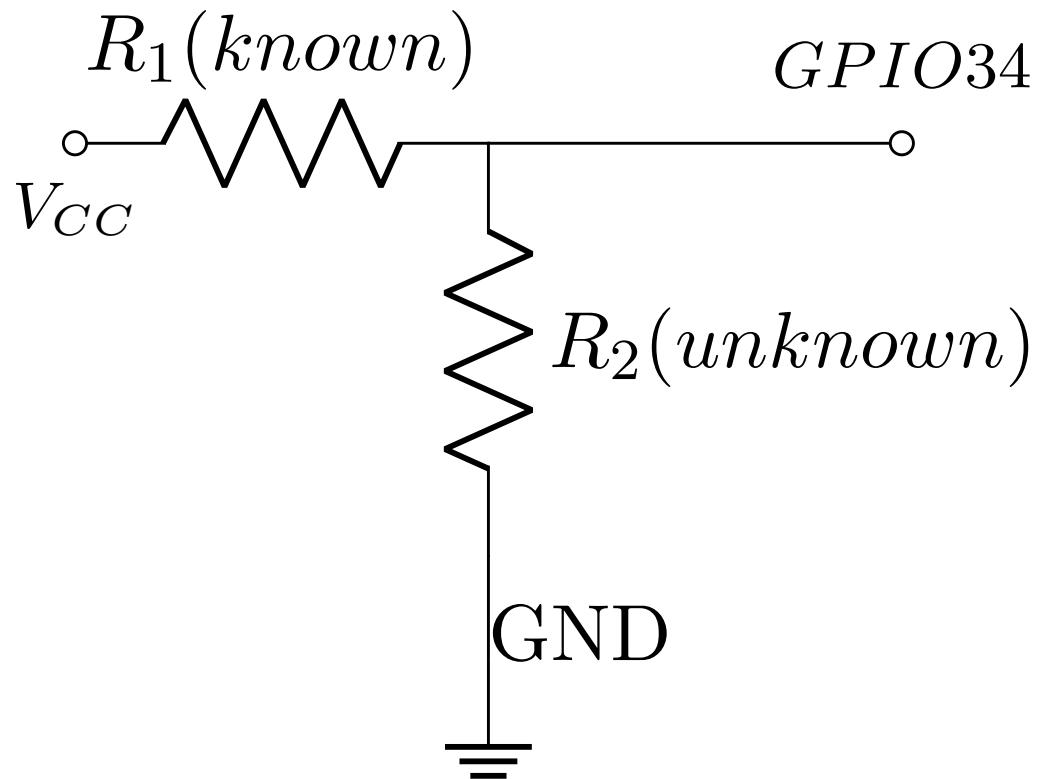

Figure 1.2.3.1: Voltage Divider
in series such that R_1 is connected to V_{cc} and R_2 is connected to GND. Refer to Fig. 1.2.3.1
1.2.4. The Ohm meter in this manual works on the principle of the voltage divider shown in Fig. 1.2.3.1.
1.4.3. Let R_1 be the known resistor of 1k ohm and R_2 be the unknown resistor. Connect R_1 and R_2 in series such that R_1 is connected to V_{cc} and R_2 is connected to GND. Refer to Fig. 1.2.3.1